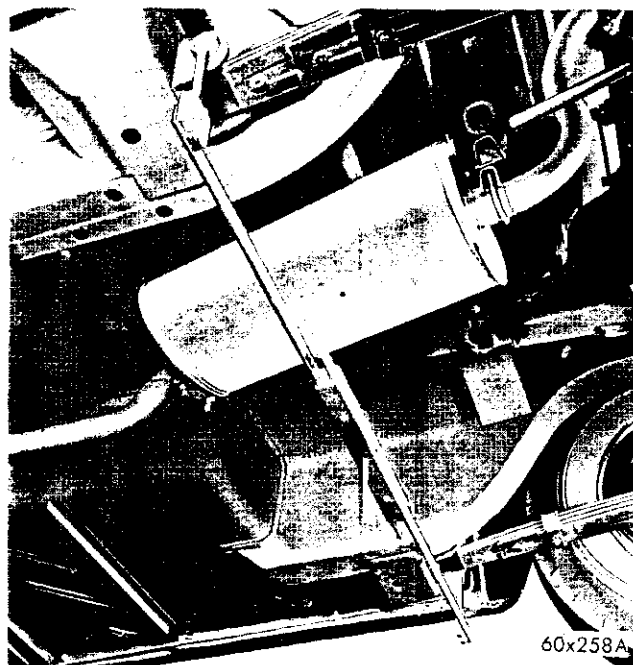

Fig. 15—Rear Alignment Gauge Installed (Typical)
(2) Using the 45 inch gauge (middle gauge) position the gauge adapter in the frame cast holes, as shown in Figure 15.